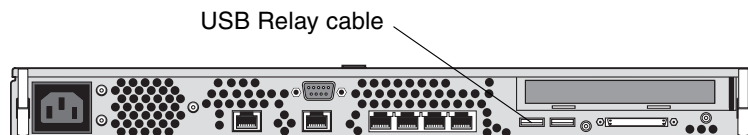

FIGURE B-3 Storage Service Processor: USB Relay Cable Connection
3. Locate the Relay USB cable at the back of the Storage Service Processor (see FIGURE B-3) and make sure it is connected to the USB Relay In connector at the back of the service panel.